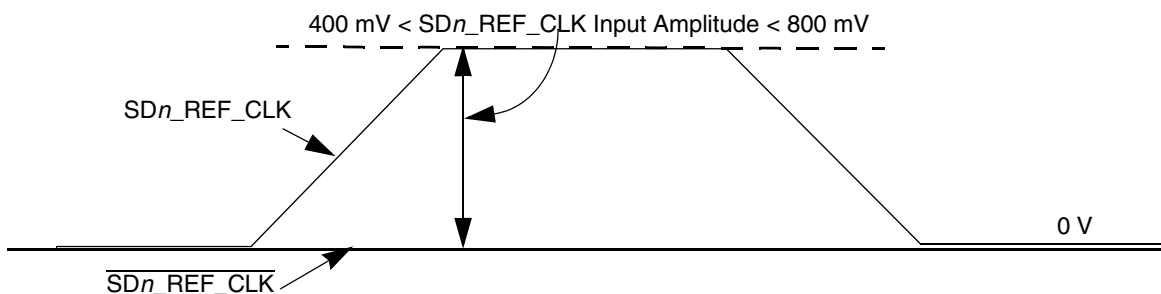

Figure 58. Single-Ended Reference Clock Input DC Requirements
- The $\overline{\text{SDn_REF_CLK}}$ input average voltage must be between 200 mV and 400 mV. Figure 58 shows the SerDes reference clock input requirement for single-ended signaling mode.